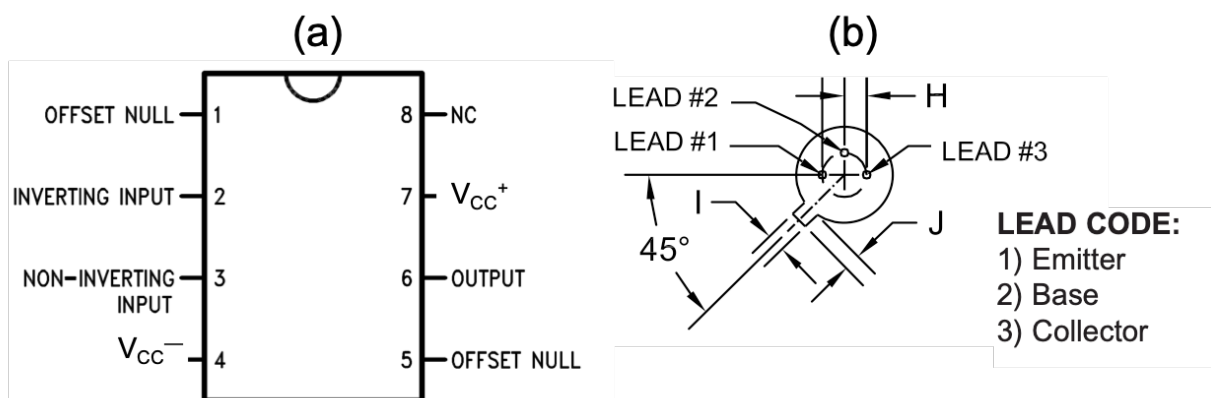

Figure 2 – The pin-out for (a) the LM741 Op-Amp and (b) the NPN transistor.
2. Sketch the pin-outs shown in Fig. 2.
4. Construct rest of the circuit. Refer to the pin-outs in Fig. 2. The thermistor should still be in thermal contact with the heater.